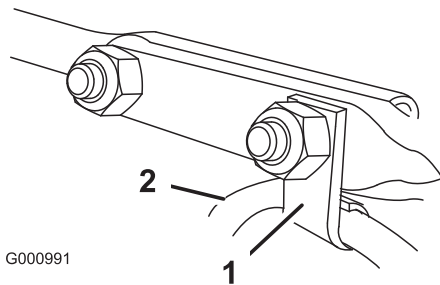

Figure 11
- Insert the cable clip that supports the deflector cable onto the forward carriage bolt, and secure the carriage bolts with locknuts from the loose parts bag (Figure 11).